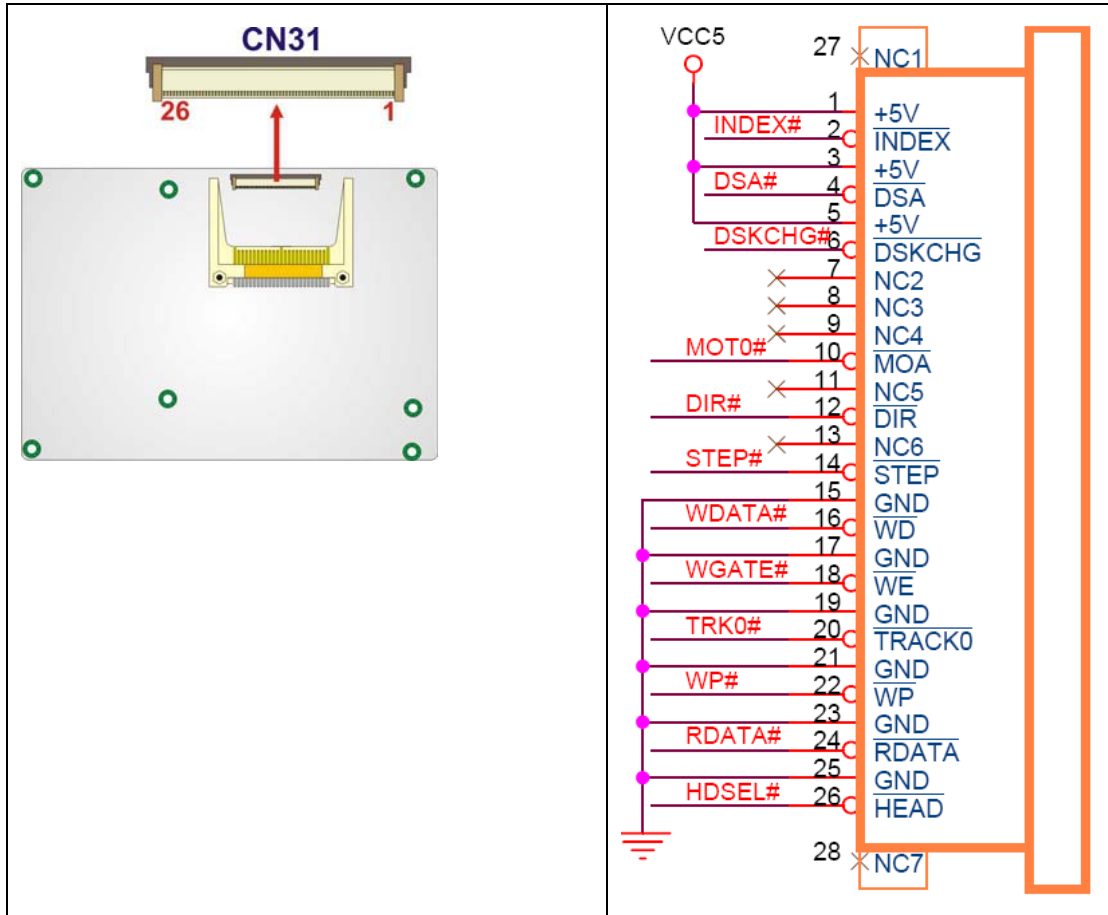

Figure 4-11: 26-Pin FDD Connector Location
- CN Location:** See Figure 4-11